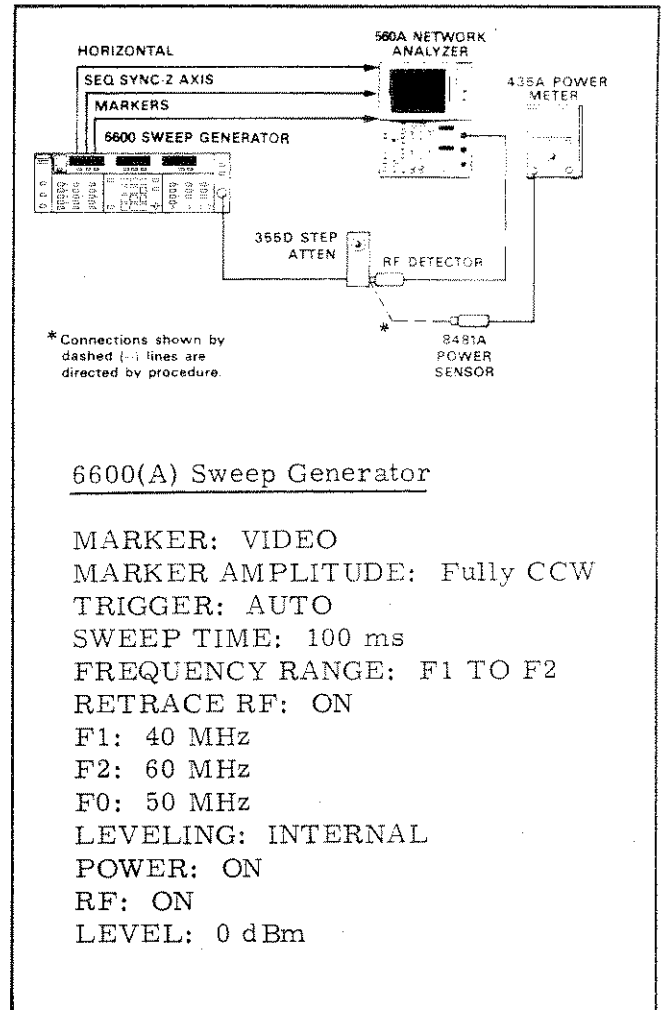

Figure 5-6. Test Setup for Power Accuracy Tests
This paragraph provides instructions for checking and adjusting the Channel A&B and Channel R log amplifier accuracy. There are two accuracy adjustments for each log amplifier channel (A&B and R); one adjusts the log amplifier channel to provide 125mV per dBm of input signal, and the other adjusts the log amplifier output so that 0 volts equals 0 dBm. Both of these adjustments are critical and should not be adjusted unless it is reasonably certain, based on the criteria in paragraph 4-4, that the log amplifier accuracy specifications are not being met. As explained in the NOTE preceding step j in paragraph 4-3, log amplifier accuracy testing is divided into two tests--one test for +10 to -50 dBm and a second test, if necessary, for +16 dBm. Figure 5-6 shows the test setup and provides initial sweep generator control positioning for the +10 to -50 dBm test.
4. Connect power sensor to 355D output (dashed line connection shown in Figure 5-6).